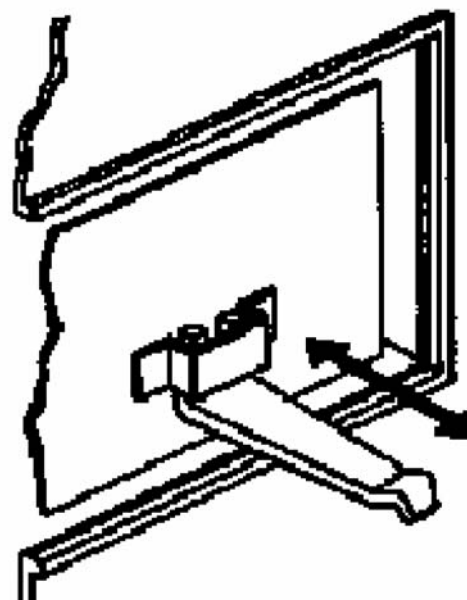

Fig. 5
5. Remove ashpan and empty (Fig. 5).